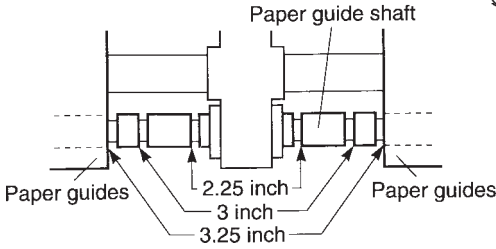

Fig. 2-3 Setting of the paper guide (SP317)
- ⑤ Set the left and right paper guides. Leave a 0.5 mm gap between the paper guide and the edge of the paper and fix the lock lever.
- When you insert the stop ring that corresponds to the groove of the paper guide shaft shown in Fig. 2-3, that will be the position when you set the paper guide.
- ⑥ Turn the power switch on the printer to the on position.
- ⑦ Cut off the front edge of the roll paper in a straight line.